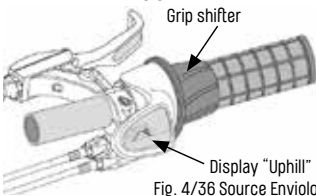

Fig. 4/36 Source Enviolo
- Clockwise rotation: Display shows a "Uphill" („Fig. 4/ Source Enviolo“ on page 36). This transmission should be selected to start or to ride uphill.